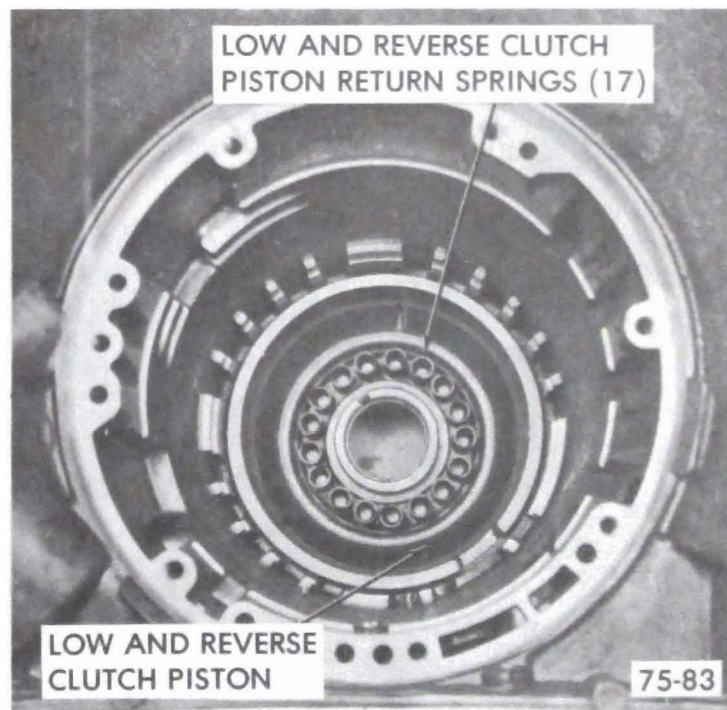

Figure 75-118
2. Remove seventeen (17) piston return coil springs from piston. See Figure 75-118.